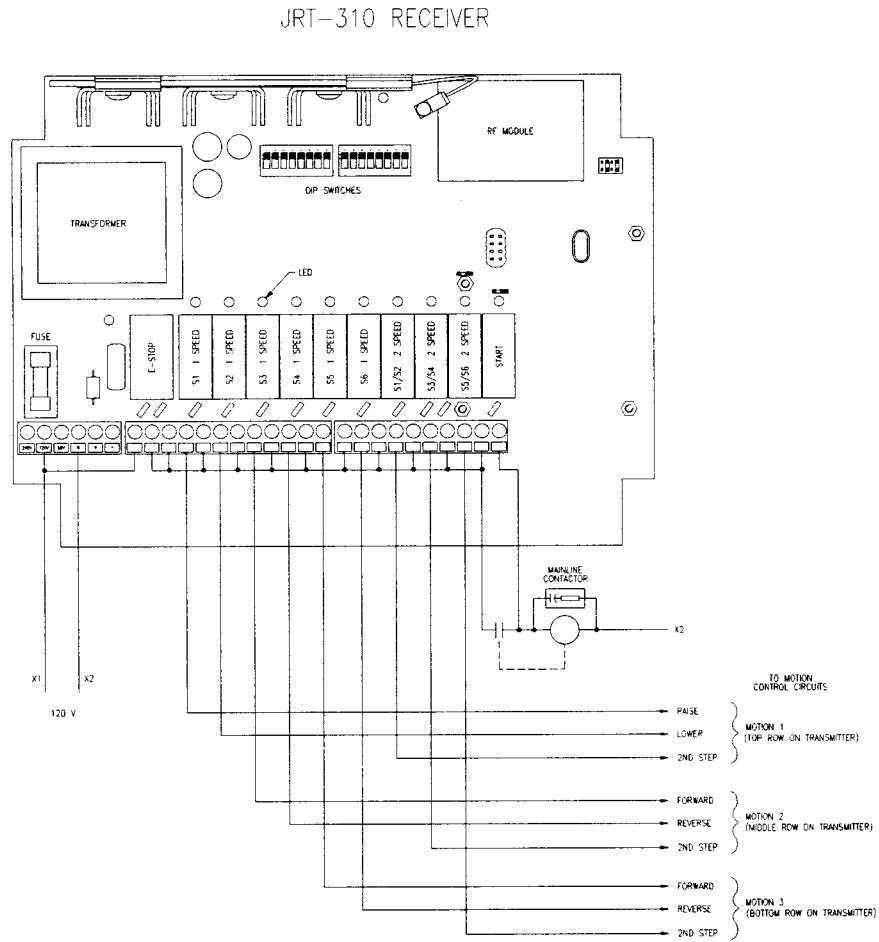

Figure 2.5: PulseStar•jr. Receiver Circuit Board
NOTE: Figures 2.5 and 2.6: PulseStar•jr. Receiver Circuit Board show how to wire the receiver board for a two-speed application. For single-speed applications, wire only the FORWARD and REVERSE terminals for each motion.
5. Connect the output wires to the terminal blocks as shown in Figures 2.5, 2.6, 2.7 or 2.9 which ever is appropriate for your application PulseStar•jr. Receiver Circuit Board.